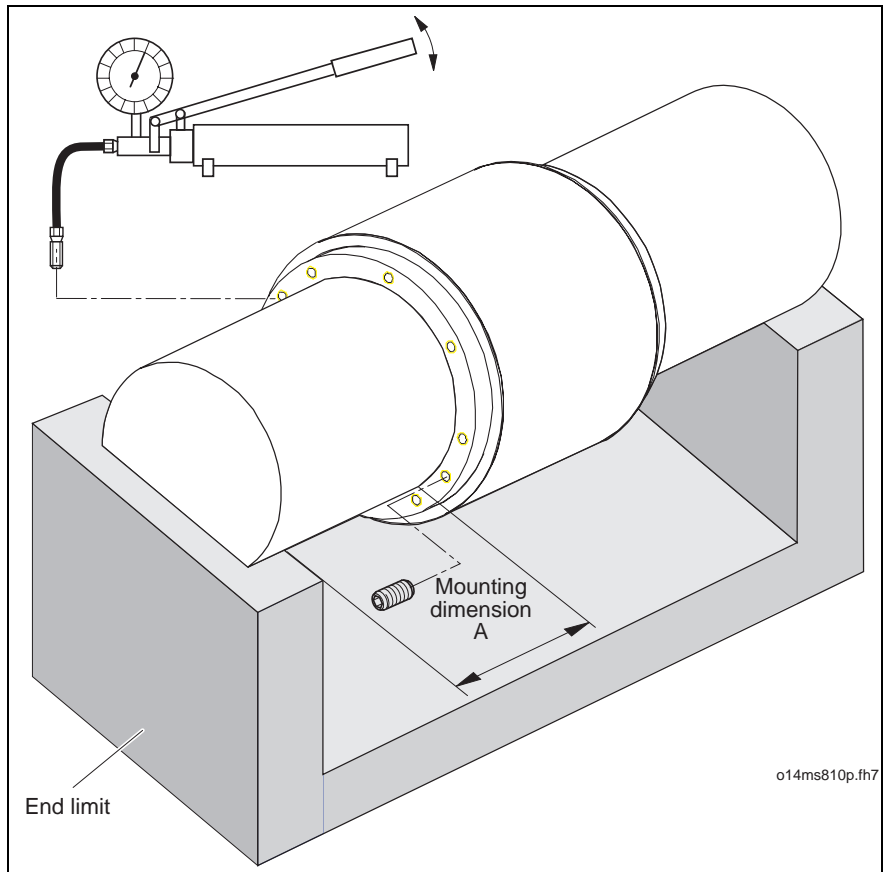

Fig. 8-17: Example of a stop for removal
⇒ Mount end stop (example: see Fig. 8-17). Mount as per (A) shown on table ( see Fig. 8-18) of the end stop.